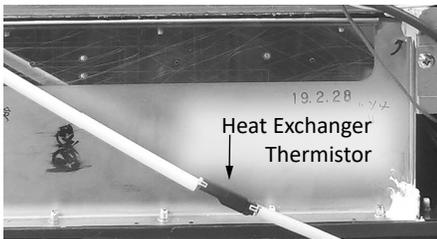

Figure 58: Disconnect for Heat Exchanger Thermistor.
- 12 Disconnect the heat exchanger thermistor cable (# 411). See Figure 58.
- 44 Reconnect the heat exchanger thermistor connector. See Figure 58 on page 56.